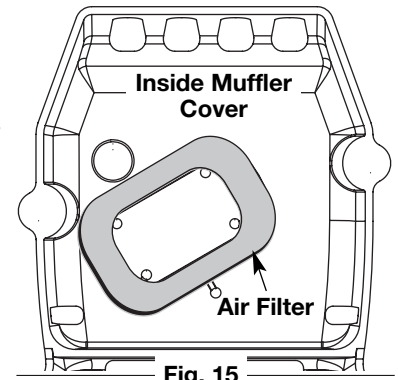

Fig. 15
2. Turn cover over and look inside to locate the air filter. Remove the air filter from inside the air filter/muffler cover (Fig. 15).
6. Replace the air filter inside the air filter/muffler cover (Fig. 15).